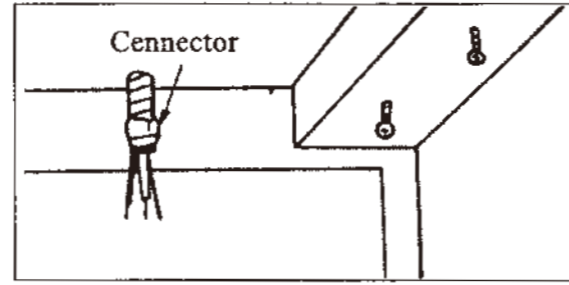

Fig.11 Take the power supply cord through the access hole
6. Take the power supply cord through the access hole drilled on the cabinet. (Fig. 11)